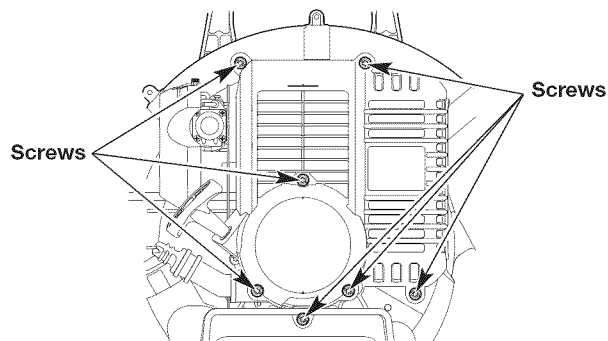

Fig. 21
1. Remove the 7 screws from the engine cover with a flat-head screwdriver or T-25 Torx screwdriver (Fig. 21). Remove the engine cover.
2. Remove the 7 screws from the engine cover with a flat-head screwdriver or T-25 Torx screwdriver (Fig. 21). Remove the engine cover.